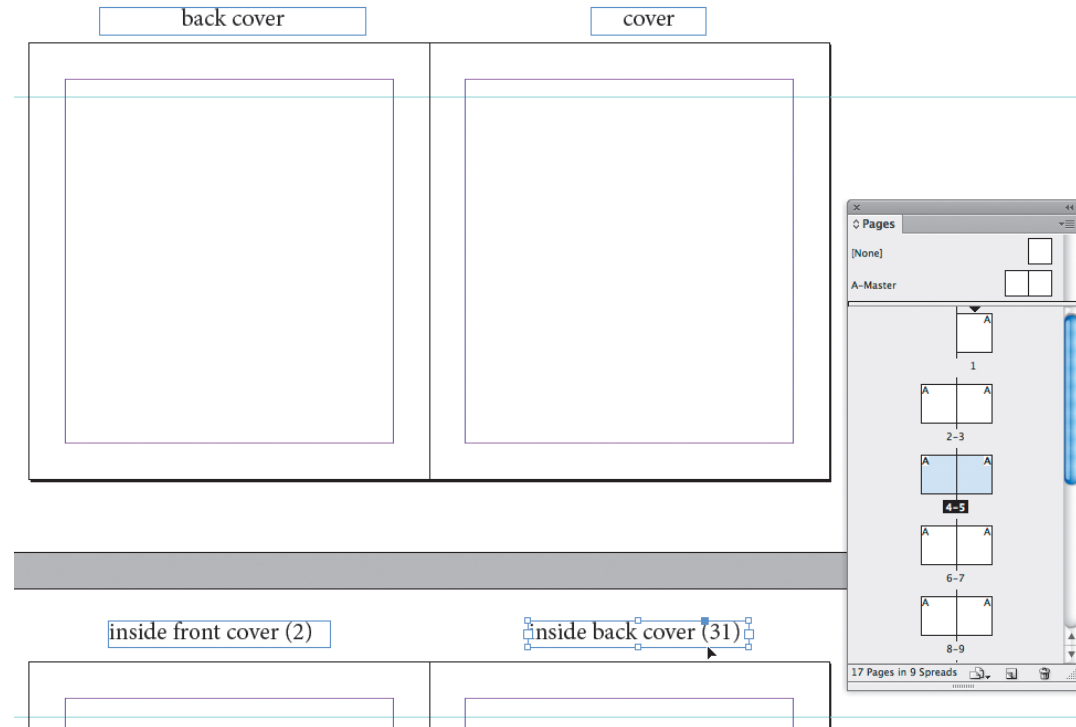

FIGURE 17.19 Label each of the pages with its printed sequence value.
7. Label your pages before you place any images. Type the words *back cover* on the artboard above page 2 and the word *cover* on the artboard above page 3 in the Pages panel. Consult your physical mock-up (see FIGURE 17.13) as you continue to label each page. Label page 4 in the Pages panel as *inside front cover (2)* and its facing page (page 5 in the Pages panel) as *inside back cover (31)* (FIGURE 17.19).